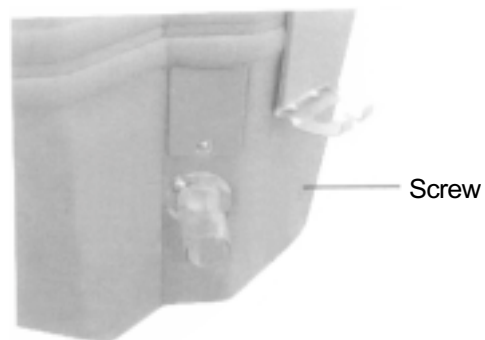

Figure 19
- Unscrew the two screws as shown in figure 19, and pull outwards the drain pump hose and remove it.